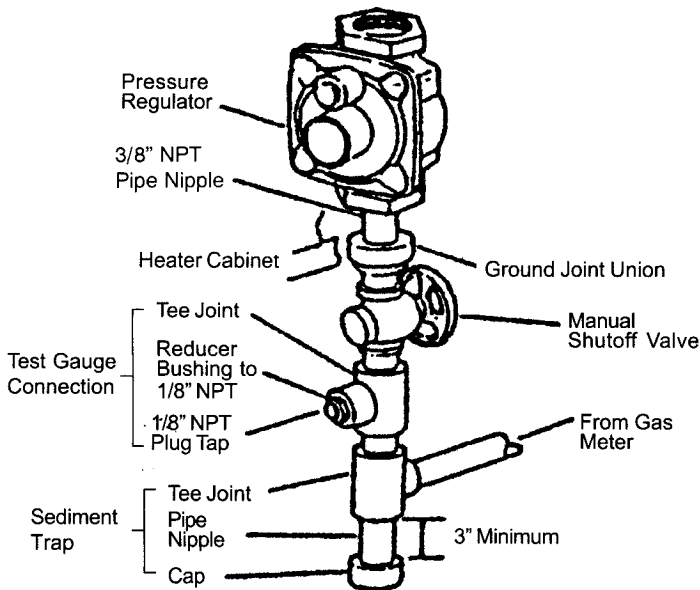

FIGURE 10
6. Install a drip leg (sediment trap). The drip leg is required to prevent condensate and scale particles from entering the gas valve. See Figure 10 on page 11.